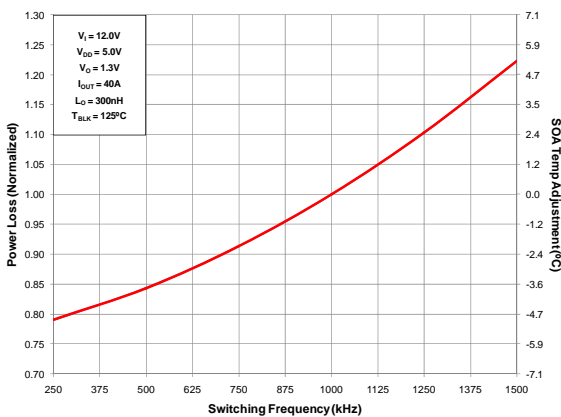

Figure 7 Normalized Power Loss vs. Switching Frequency
- (Figure 7) Normalized power loss for switch frequency \approx 0.91
- (Figure 7) SOA temperature adjustment for switch frequency $\approx -1.9^\circ\text{C}$